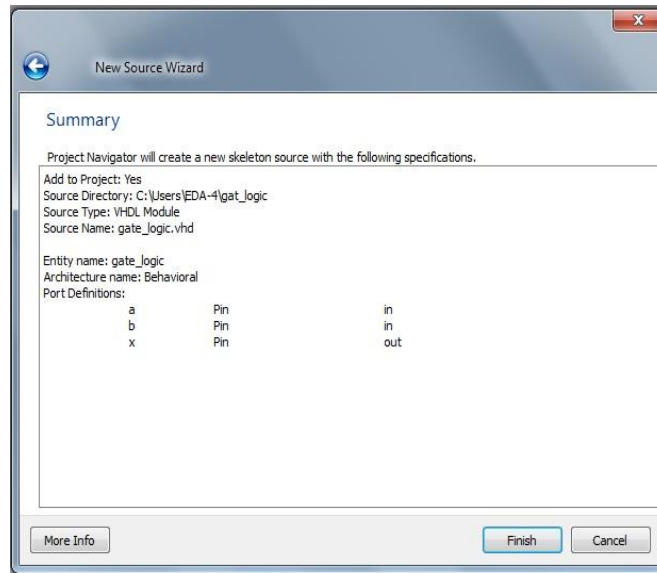
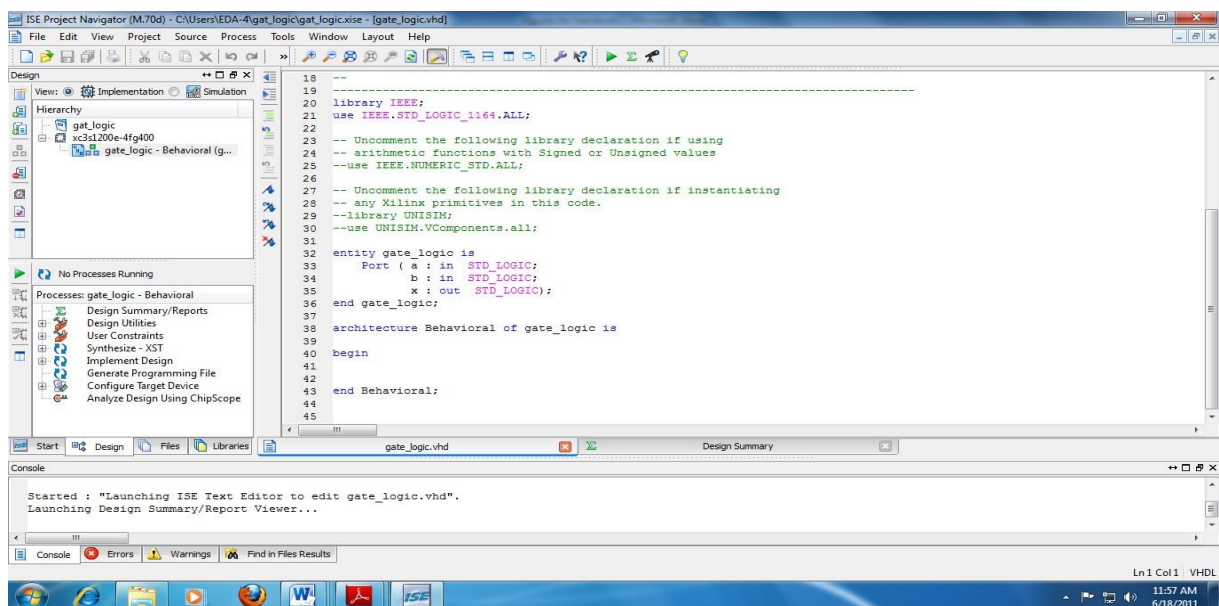

Figure 8: New Source Wizard- Summary
Figure 9: VHDL File in ISE Text Editor
- x. After entering the ports click on **Next**, the following summary window (**Figure 8**) will appear.
- xi.** Click **Finish** (figure 8) to open the empty VHDL file in the ISE Text Editor (figure 9). In the ISE Text Editor, the ports are already declared in the VHDL file, and some of the basic file structure is already in place. Keywords are displayed in blue, comments in green, and values are black. The file is color-coded to enhance readability and help you recognize typographical errors.
- xii.** Write down the code for NAND gate as “**x<= a NAND b;**” after beginning in the VHDL File in ISE Text Editor **Figure 9**.